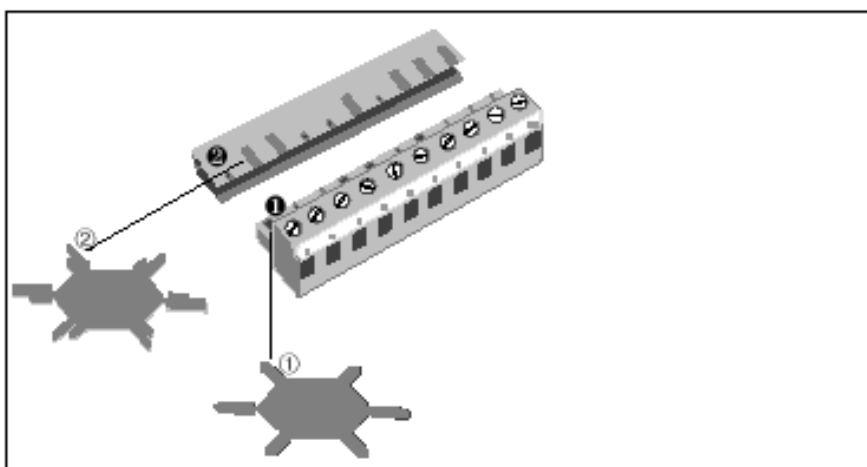

Figure 3-18 Preventing Incorrect Usage of Connectors
The coding profiles ① and coding tabs ② (see Figure 3-18) enable you to code connectors without loss of pole to prevent incorrect usage. Use the following procedure:
1. Insert coding profile ① on connector part ❶ into the slots provided.
2. Insert coding carrier ② on the main housing ❷ into the corresponding recesses.